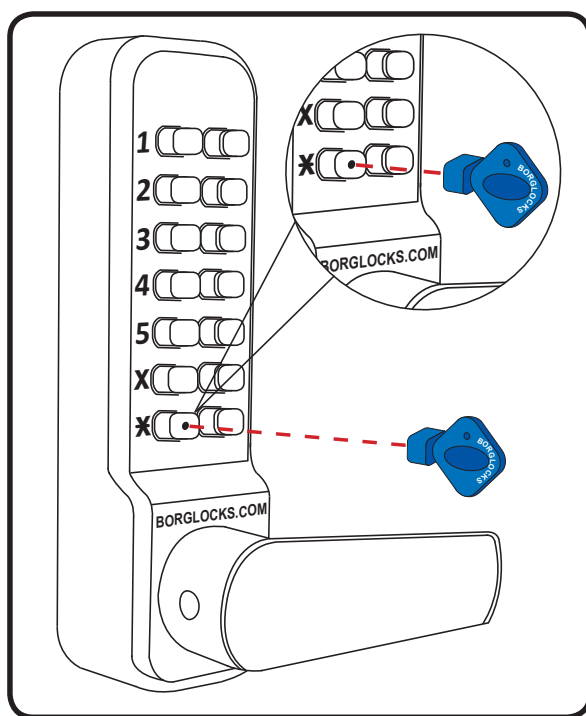

Fig.1
- Fully press and hold the code change key (until step 5) as per Fig.1 below.**